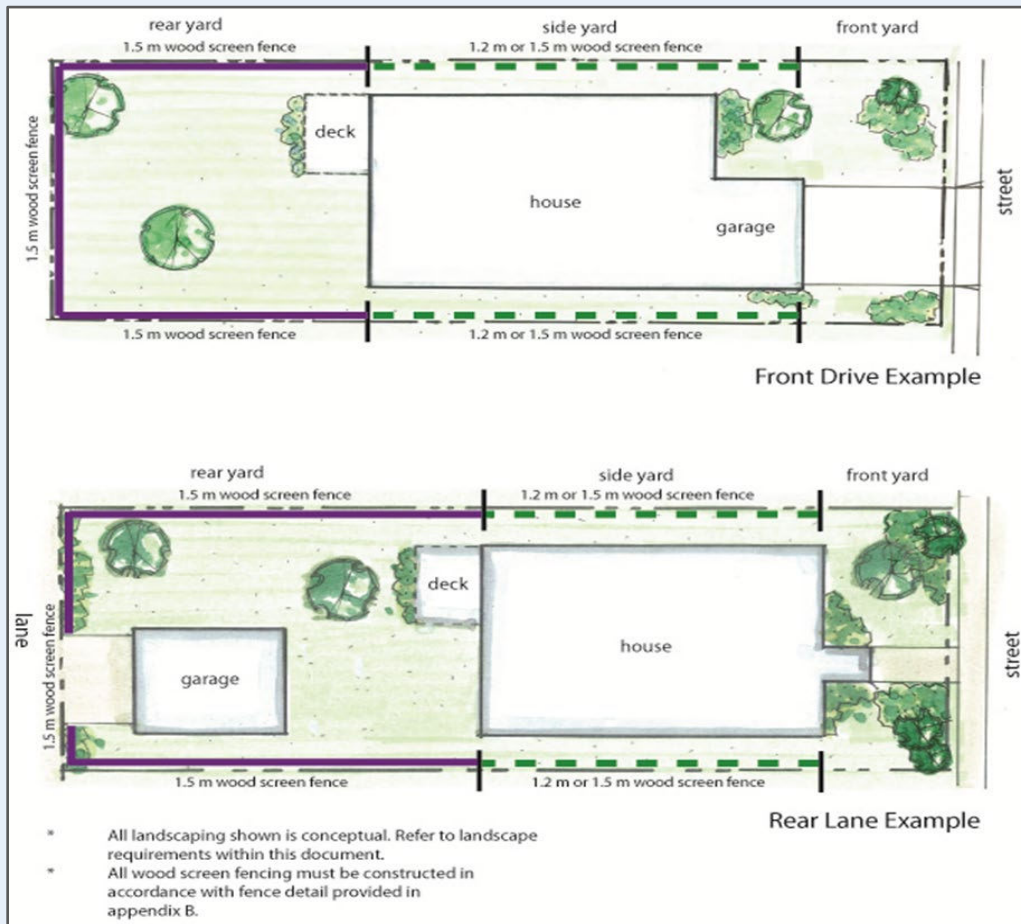

Figure 2: Fencing Plan – Typical Lots
- Fencing for typical lots shall be designed as shown in Figure 2: Fencing Plan – Typical Lots, with 1.5 m wood screen fencing along the rear and side yards. Fencing height may be reduced to 1.2 m along the length of the house structure.